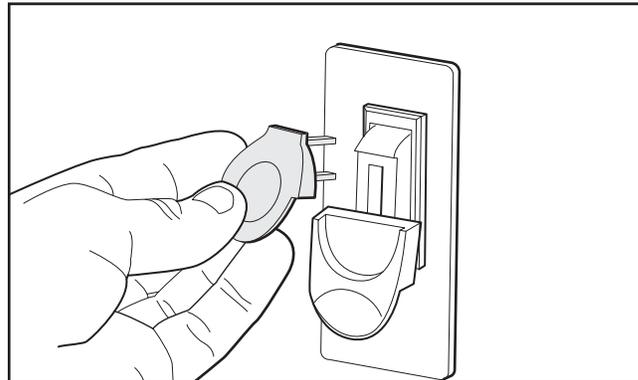

Figure 19. Removing switch key from paddle switch.
5. Remove the switch disabling key, as shown in **Figure 19**.